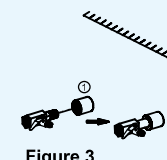

Figure 3.
2. Connect the 3-way connector to the raw water supply (marked as no. 1) as shown in Figure 3. The 3-way connector is fitted in line with the raw water supply.